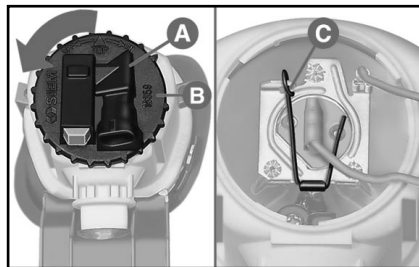

fig. 20
3) Disconnect the connector **A-fig. 20** and turn the cover **B** anticlockwise.
4) release the clip **C-fig. 20** and remove the bulb holder.
6) Then insert the bulb holder in its seat and fix it through clip **C-fig. 20**.